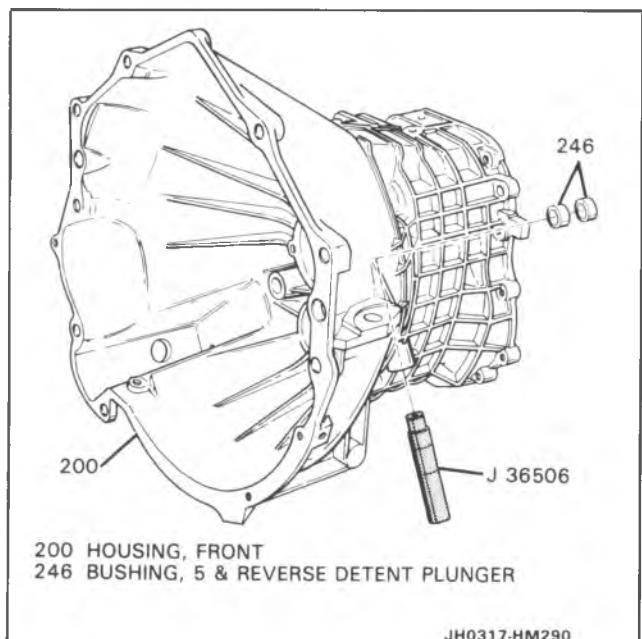

Figure 52 Removing 5th-Reverse Detent Bushings
11. Two 5th-reverse detent bushings (246), using J 36506 (Figure 52).